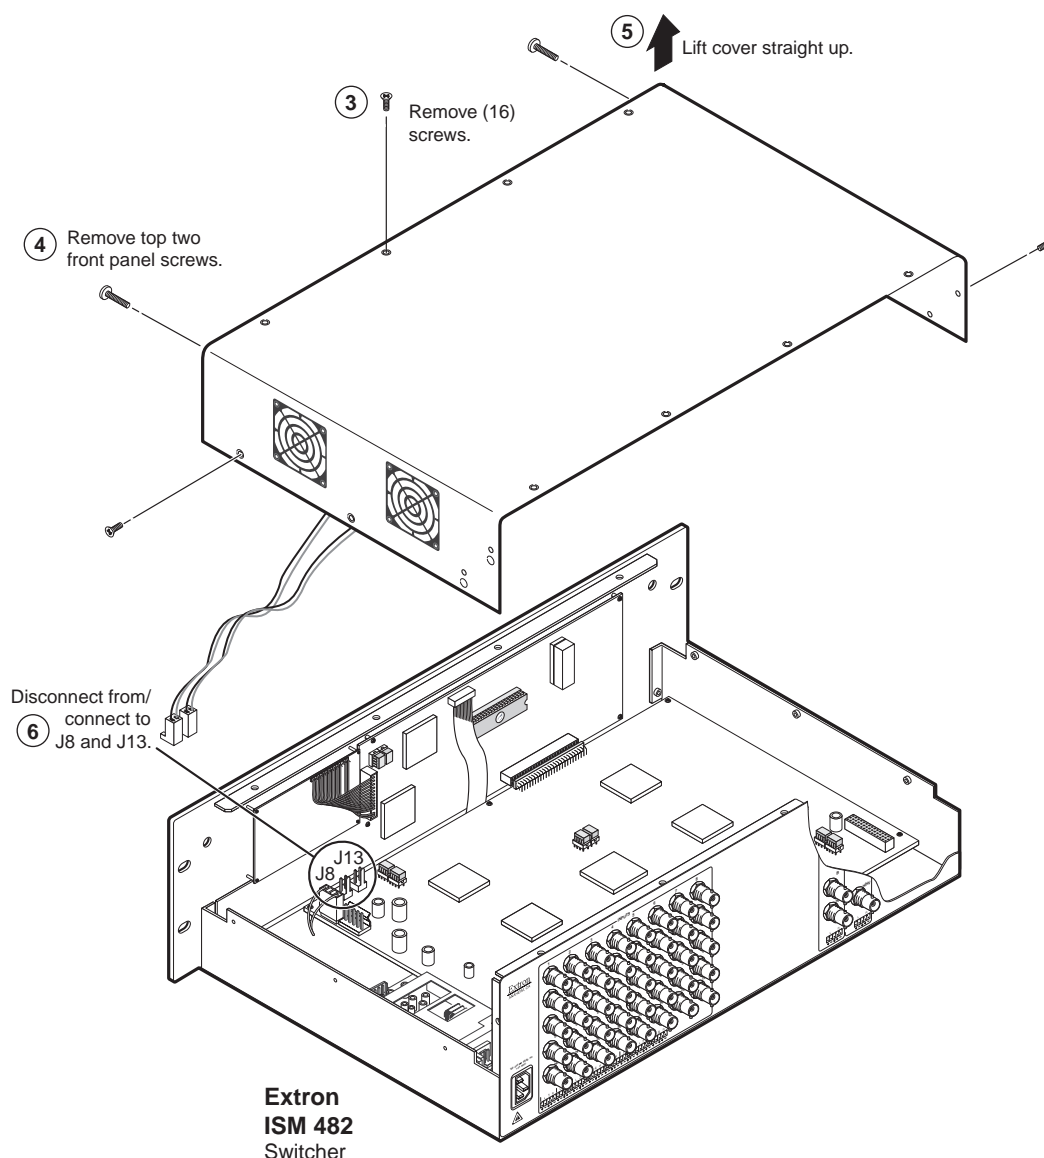

Figure 7-1 — Removing the ISM cover
3. Remove the 16 screws, 8 on the top and 4 on each side of the ISM cover (figure 7-1).